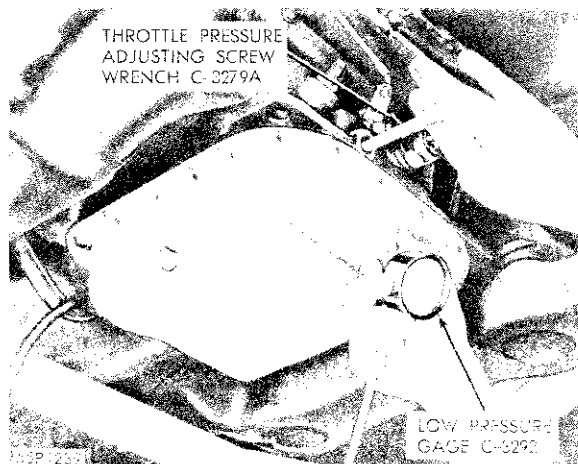

Fig. 5—Adjusting Throttle Pressure (Typical)
(5) Insert adjusting screw wrench, Tool C-3279A, and adjust throttle pressure to 13-15 psi, as shown in Figure 5. Turn screw OUT to increase pressure and IN to decrease pressure.
(6) Replace the throttle valve adjusting screw plug and torque from 20 to 25 foot-pounds.
(7) With the accelerator pedal fully released, and engine at 475 to 500 rpm, the pressure should read 13 to 15 psi.